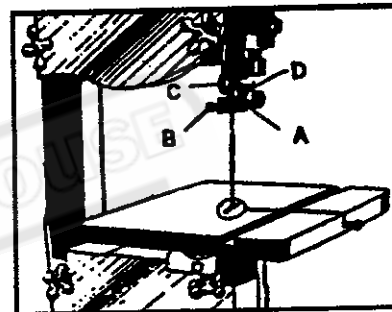

Fig. 21
The upper blade guides (A) Fig. 21. are held in place by means of the set screws (B). Loosen the set screws (B) to move the guides (A) as close as possible to the side of the blade, being careful not to pinch the blade. Then tighten the knob screw (B).
The upper blade support bearing (C) Fig. 21. prevents the blade from being pushed too far to the back which could damage the set in the saw teeth. The support bearing (C) should be set $1/64"$ (0.4m/m) behind the blade by loosening screw (D) to move the support bearing (C) in or out. The blade support bearing (C) should also be adjusted so the back edge of the blade overlaps the outside diameter of the ball bearing by about $1/16"$ (1.6m/m). The bearing (C) is set on an eccentric and to change position remove screw (D) and bearing (C) Fig. 21. Loosen screw (D). and reposition shaft that bearing (C) is attached to.